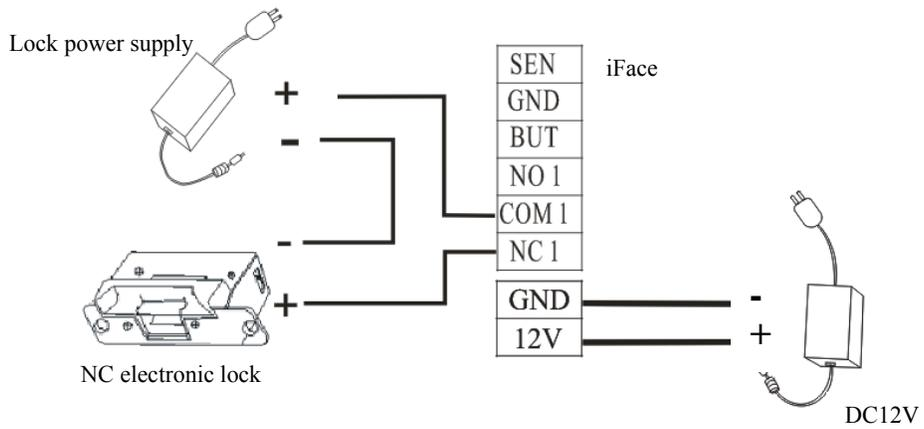
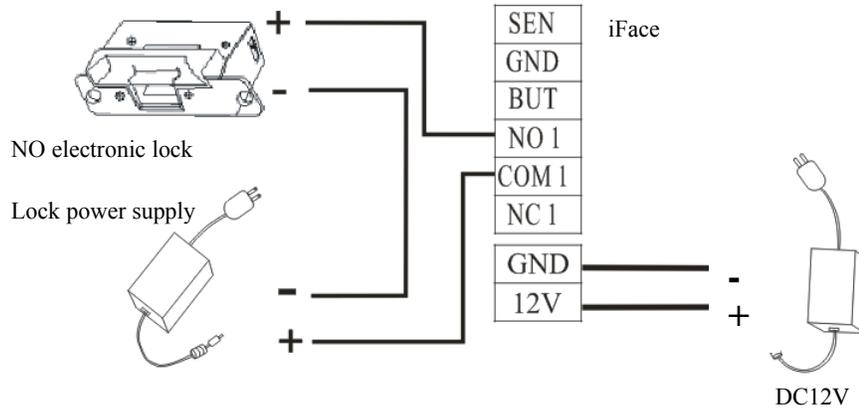

Figure 3 NC electronic lock (adopting an independent power supply)
Figure 4 NO electronic lock (adopting an independent power supply)
2. The iFace and the electronic lock adopt separate power supply, as shown in Figure 3 and Figure 4: